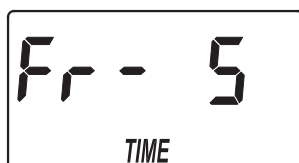

FIG. 24
1. If you completed the previous step, the fast rinse time adjust screen should show in the display (See Figure 24). Otherwise, press and hold for 3 seconds the SELECT button, until the display shows "000 - -", then press the SELECT button five times to display the fast rinse time adjust screen.